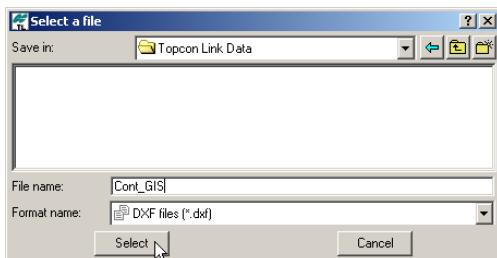

Figure 3-5. Select A File
- Click **Browse** (“...”) and select or create a folder in the *Select a file* dialog box, then select the destination file type and enter the destination file name. Click **Select** (Figure 3-5).